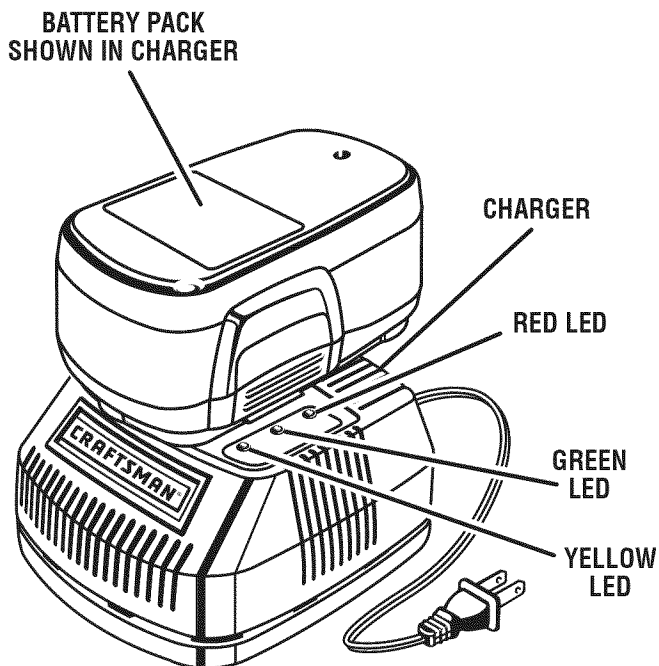

Fig. 3
- Place the battery pack in the charger aligning raised rib on the battery pack with the groove in the charger. See *Figure 3.*